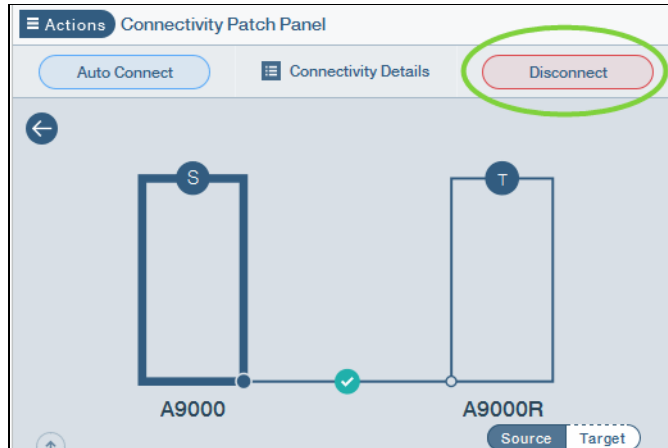

Figure 4-47 Target Connectivity Disconnect
1. Click **Disconnect** in the Connectivity Patch Panel window, as shown in Figure 4-47, and click **Apply** in the resulting confirmation window.